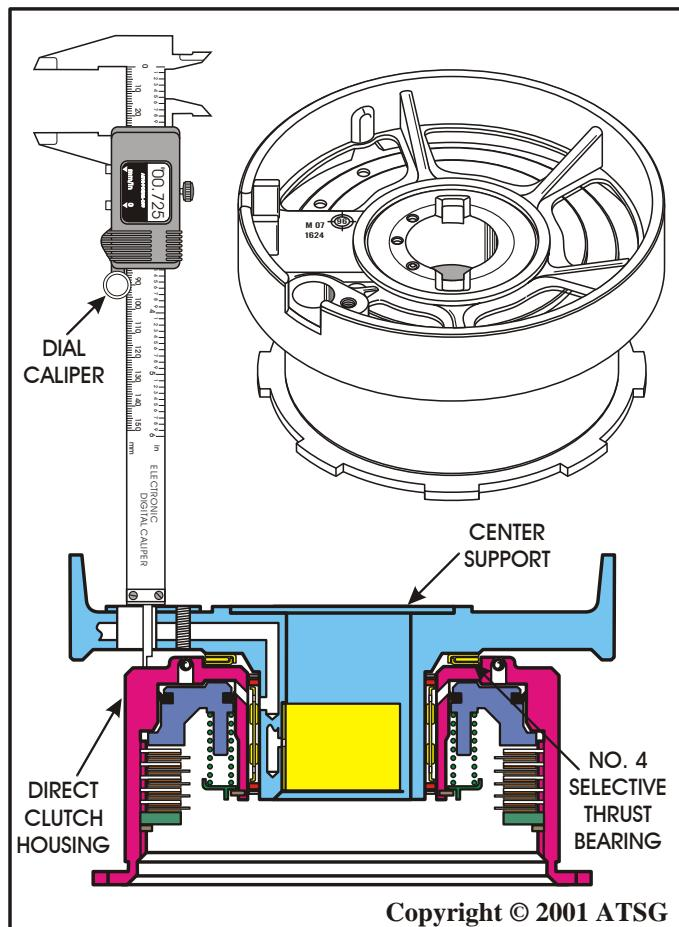

Figure 152
33. Assemble the selective bearing, direct clutch housing and center support, ***on the bench***, as shown in Figure 152.
34. Measure with a dial caliper through the speed sensor hole down to the surface of the direct clutch housing, as shown in Figure 152, and ***record this as dimension "A"***.